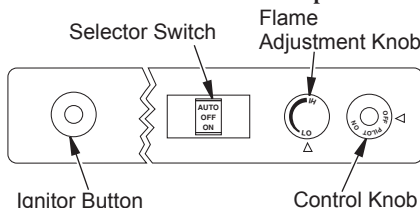

Figure 34 - Control Knob and Ignitor Button Location (Shown as Supplied, No Control Options)
5. Wait five (5) minutes to clear out any gas. Then smell for gas, including near the floor. If you smell gas, STOP! Follow "B" in the safety information, column 1. If you don't smell gas, go to the next step.
6. Press in and turn control knob counter-clockwise  to the PILOT position. Press in control knob for five (5) seconds (see Figure 34).